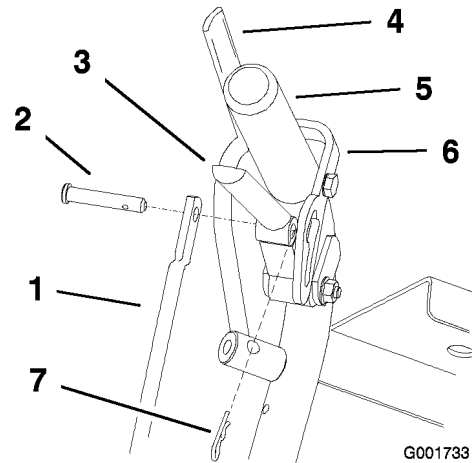

Figure 52
4. Place the clevis pin into the drive lever (Figure 52).
1. Adjust the rod length by releasing the drive lever and removing the hairpin cotter pin and clevis pin. Rotate the rod in the rod fitting (Figure 52).
6. Install the hairpin cotter pin between the drive levers and the neutral locks and into the clevis pins (Figure 52).